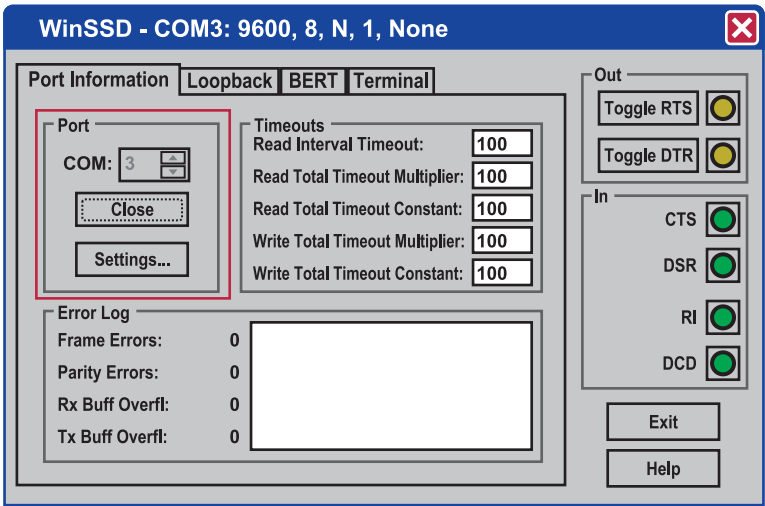

Figure A-1. Port information tab.
- On the “Port Information” tab, select the COM port you want to test and click on the “Open” button (see Figure A-1).